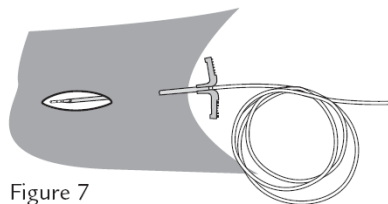

Figure 7
- Insert the marked end of the catheter through the opening of the introducer sheath such that it extends into the wound site (Figure 7). Advance catheter until entire infusion segment is visible.